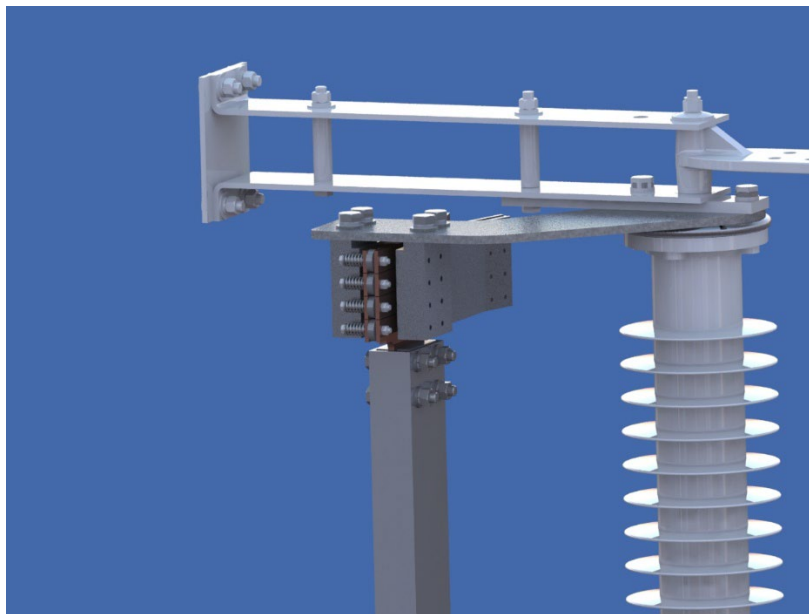

Figure 12: Blade Fully Closed
- 5.3.1. Full open, the ground blade is at or near parallel to the switch base (**Figure 12**).